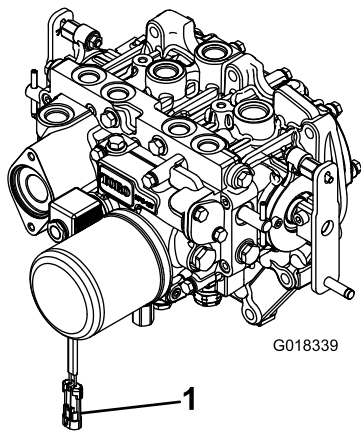

Figure 3
2. To prevent the unintentional engagement of the PTO clutch, disconnect the wire harness electrical connector from the PTO solenoid valve coil connector (Figure 3).
8. After the other end of the drive shaft is connected to the attachment gear box shaft, connect the wire harness electrical connector to the PTO solenoid valve coil connector (Figure 3).